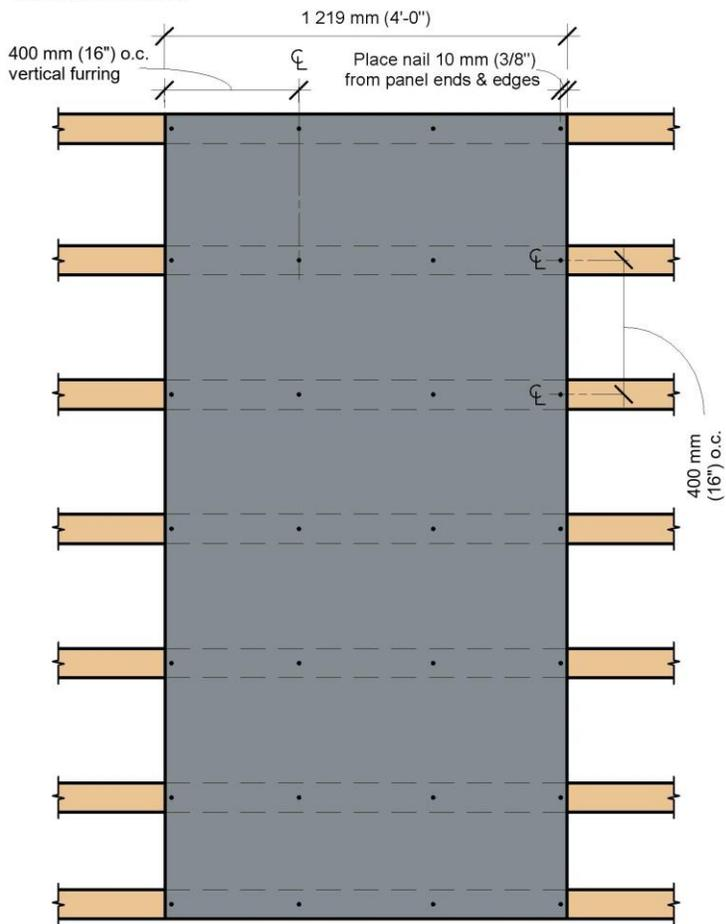

Figure 9
0.113" x 51 mm (2") HDG ⁽³⁾ ring shank nail	One nail every 400 mm (16") o.c. horizontally into cladding and furring only (See Figure 9)